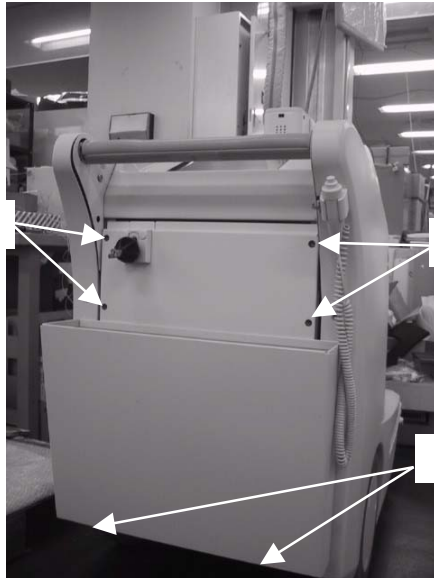

Fig. 6-2 Screw clamp positions of the FPD box
2. Loosen the two bolts under FPD box, then remove the four screws as shown in Fig.6-2.